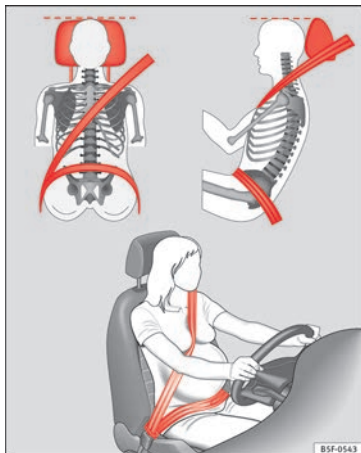

Fig. 11 Placing the seat belt in the shoulder and pelvis area for pregnant women.
- The shoulder part of the seat belt must lie on the centre of the shoulder, never across the neck. The seat belt must lie flat and snugly on the torso » **Fig. 11.**
- The lap part of the seat belt must lie across the pelvis, never across the stomach. The seat belt must lie flat and snugly on the pelvis » **Fig. 11.** Pull the belt tight if necessary to take up any slack.